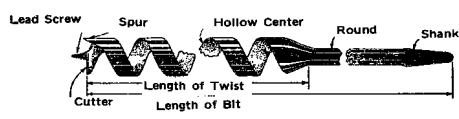

FIGURE 2. Ship Auger Bit.
- 2.04 *Ship Auger Bit*—This bit consists of either a solid center or a hollow center twist provided with a head containing a single cutter, a single spur and a lead screw having 12 threads per inch. The solid center twist type of construction bit is similar in design to the auger bit. Figure 2 illustrates the hollow center type.